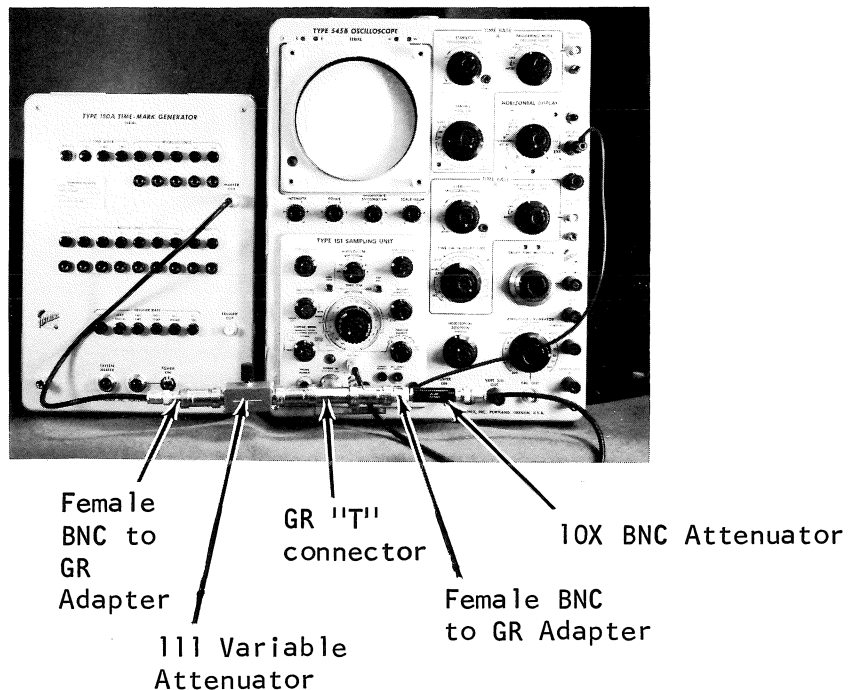

Figure 5-40
- Apply 10 mc from a 180A through a female BNC to GR adapter, a 111 VARIABLE ATTENUATOR and a GR "T" connector to the SIGNAL IN on the ISI. Connect a 10X BNC attenuator and a female BNC to GR adapter between the "T" connector and the EXT TRIG on the ISI. (See figure 5-40).